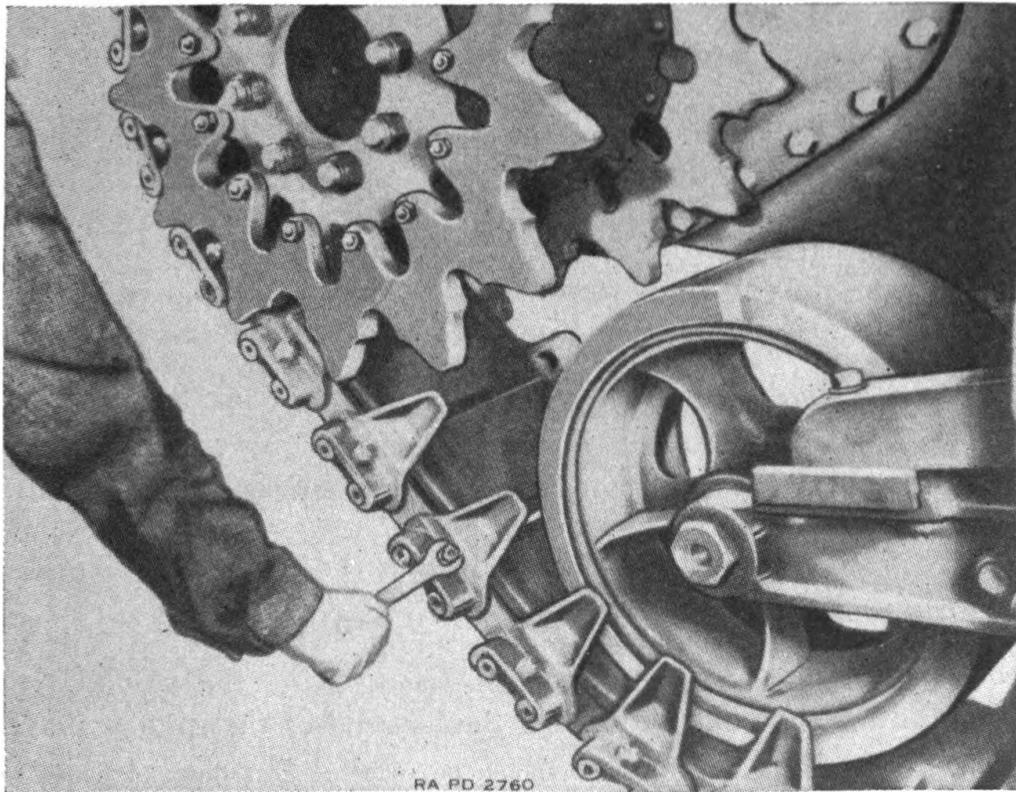
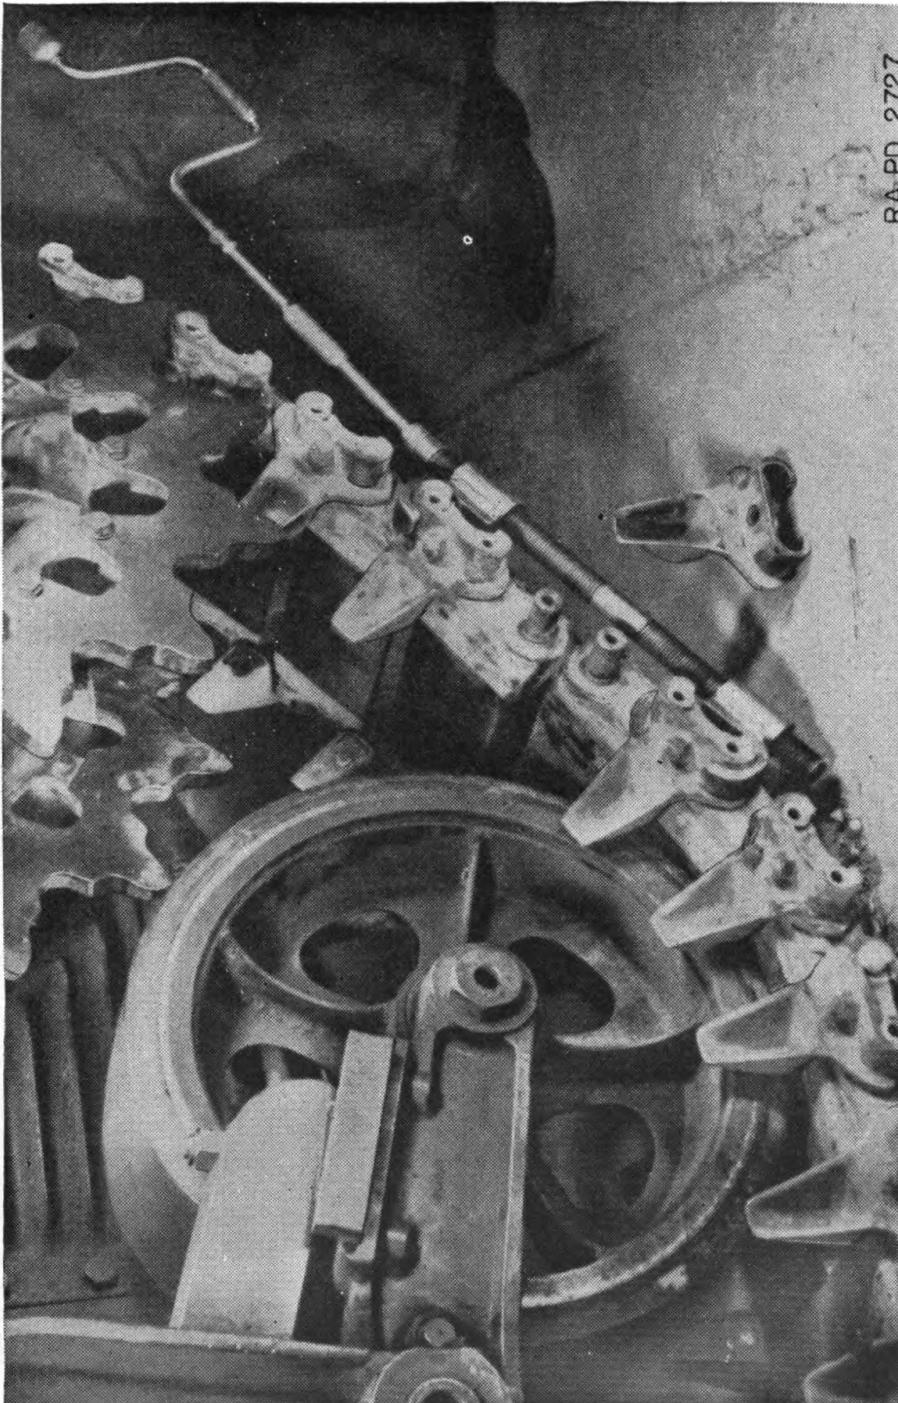
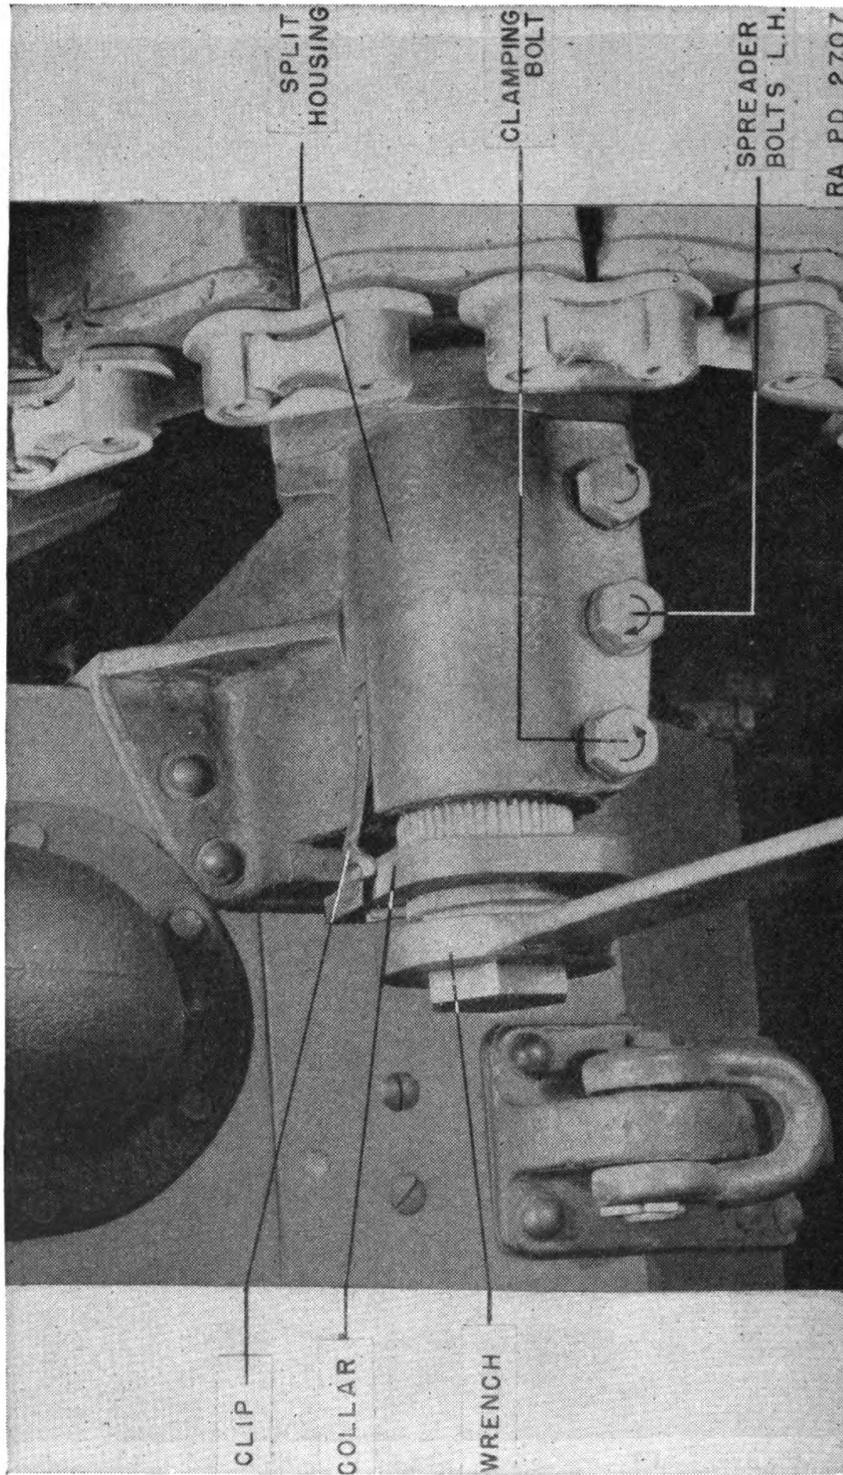

FIGURE 55.—Removing end connection from track.
FIGURE 56.—Assembly of track.
FIGURE 57.—Idler track adjustment.
97. Tracks.—*a. Description* (fig. 55).—Most of the medium tank tracks are composed of rubber track shoe units, each assembled with two pins. The units are assembled into an endless track by the steel end connections which are secured to the ends of the pins by wedges. The steel end connections also serve as guides to keep the track in alignment with the bogie wheels, idlers, and drive sprocket. The outer ends of the connections serve as driving lugs and engage the teeth of the final drive sprocket. Some of the tanks are provided with rubber jointed tracks having a steel wearing surface of interrupted grouser design and an inside cushioning surface of rubber.
c. Removal of track (fig. 55).—(1) Make sure that tank is on level ground.
- (4) Remove connections as shown in figure 55.
- (5) Lower the bottom portion of the track to the ground.
- (6) Move the upper portion of the track to the rear over the drive sprocket and supporting rollers by means of a crowbar.
- (7) Push or pull the vehicle off the tracks.
d. To replace track (fig. 56).—(1) Lay the track on the ground in a trench at the tank and deep enough so that the bogie can ride onto track, and push or pull the vehicle on it so that the end of the track projects out beyond the front bogie wheel approximately 16 inches.
(2) Bring the other end of the track over the idler and track-supporting rollers to the drive sprocket.
(3) Take up the slack by revolving the drive sprocket forward with a long bar.
(4) Bring the end shoes together by means of a special jack hook until the guides, wedges, and nuts can be replaced as shown in figure 56.
(5) Adjust track as described below.
e. To adjust track (fig. 57).—(1) Loosen the two outside clamping bolts which hold the spindle of the eccentric cam in the split housing.
(2) Spread the split housing by turning the center bolt counter-clockwise.
(3) Raise the clip at the end of the spindle.
(4) Drive the collar (plate) off the serrations of the spindle.
(5) Adjust the idler by turning the hex end of the spindle shaft.